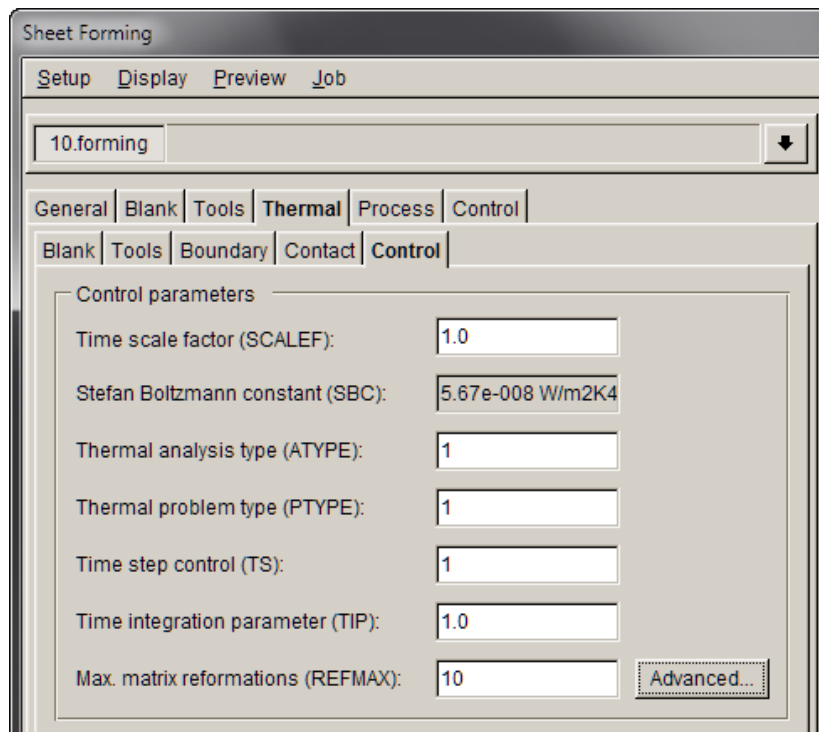

Figure 46
1. Define Thermal analysis type: **1** (0, Steady state analysis; 1, transient analysis.) Please see Figure 46.